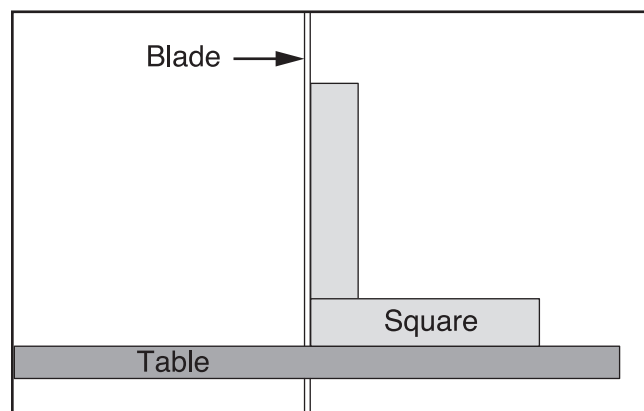

Figure 38. Squaring table to blade.
4. Raise the guide post and place a machinist's square on the table next to the side of the blade, as illustrated in **Figure 38**. Adjust the table square with the blade, then secure it with the table tilt lock lever.